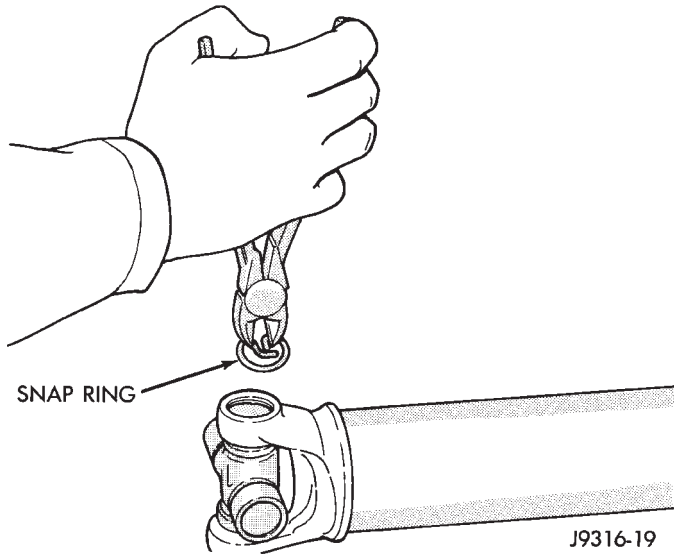

Fig. 17 Remove Snap Ring
- (1) Remove the propeller shaft.
- (2) Using a soft drift, tap the outside of the bearing cap assembly to loosen snap ring.
- (3) Remove snap rings from both sides of yoke (Fig. 17).
- (4) Set the yoke in an arbor press or vise with a socket whose inside diameter is large enough to receive the bearing cap positioned beneath the yoke.
- (5) Position the yoke with the grease fitting, if equipped, pointing up.